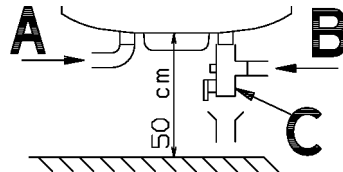

Fig. 2
- Fig.2, 3 A- eau chaude - bague rouge
- Fig.2, 3 A- hot water - red ring
- Fig.2, 3 A- água quente - anel vermelho
- Afb.2, 3 A- warm water - rode ring